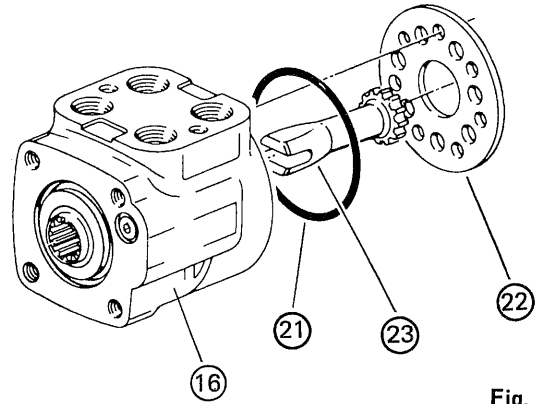

Fig. 129
- (8) Remove drive (23) (Fig. 129).
- (9) Separate spacer plate (22) (Fig. 129).
- (10) Remove O-ring (21) from housing (16) (Fig. 129).